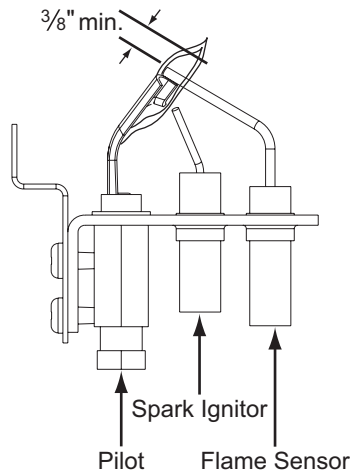

FIGURE 12 - PROPER FLAME ADJUSTMENT
1. **Limit Switch (LS)** - This control is located inside the heat exchanger compartment and is set to open at the temperature indicated in the Temperature Controls Table of the unit wiring diagram. It resets automatically. The limit switch operates when a high temperature condition caused by inadequate supply air flow occurs, thus shutting down the ignition control and closing the main gas valve and energizing the blower.
2. **Pressure Switch (PS)** - If the draft motor should fail, the pressure switch prevents the ignition controls and gas valves from being energized.
3. **Flame Sensor** - The flame sensor and controls are located per Proper Flame Adjustment, Figure 12. If an ignition control fails to detect a signal from the flame sensor indicating the pilot flame is properly ignited, then the main gas valve will not open.
4. **Rollout Switch (RS)** - This switch is located in the burner vestibule. In the event of a sustained main burner flame rollout, it shuts off the ignition control and closes the main gas valve.
The pilot flame should envelope 3/8 inch of the end of the flame sensor and not contain any yellow color, see Figure 12.